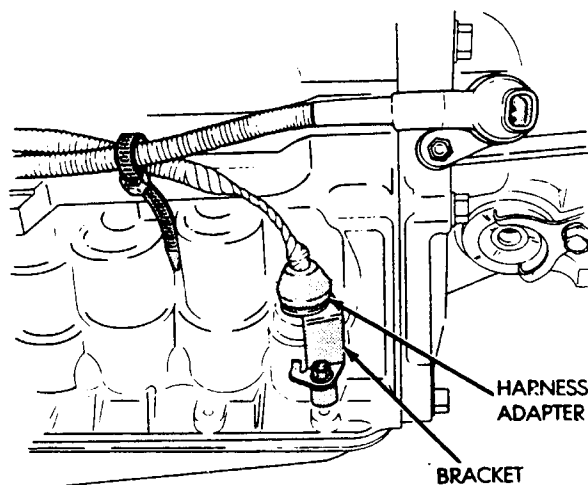

Fig. 10 Harness Adapter Removal/Installation
(3) Remove bracket securing solenoid harness adaptor (Fig. 10) to case.
(4) Pull harness adapter and wires out of case.
(5) Remove and discard adapter O-ring.
(6) Lubricate new O-ring and install it on adapter.
(7) Install solenoid wire harness and adapter in case.
(8) Install adapter bracket and bracket bolt.
(9) Connect wires to solenoids.
(10) Install oil screen and oil pan.